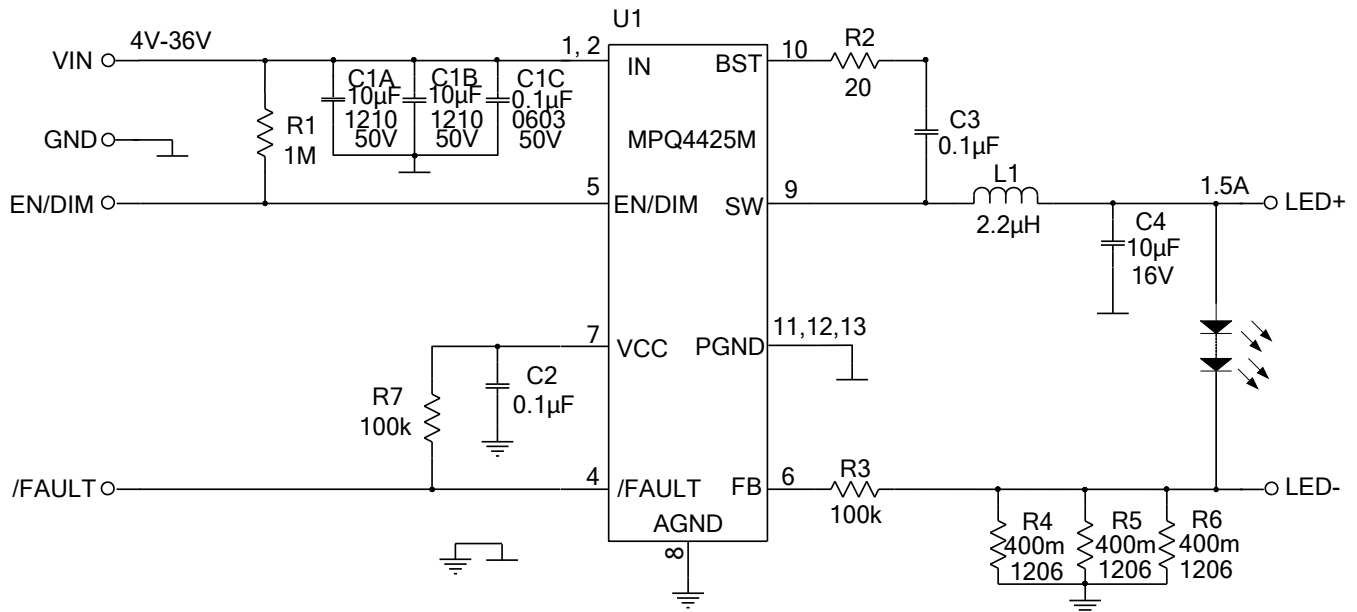

Figure 8: Io=1.5A Application Circuit
- 7) The recommended layout is based on Figure 8.